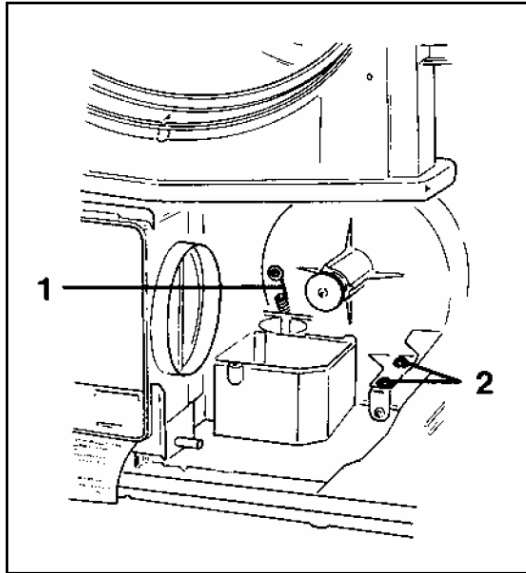

Figure 5-17: Cooling Fan Removal 1 (Machine Nos. without Prefix)
5. Release the spring (refer to Figure 5-17 – Cooling Fan Removal 1, Item 1).
6. Remove the screws (refer to Figure 5-17, Item 2).
3. Release the cooling pump spring (refer to Figure 5-17 - Cooling Fan Removal 1).